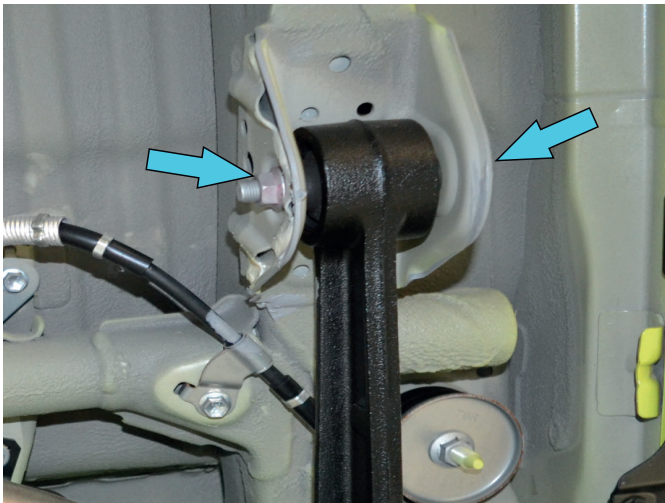

Fig. 1
1. Remove the factory bolt of the rear left radius arm (Fig. 1).